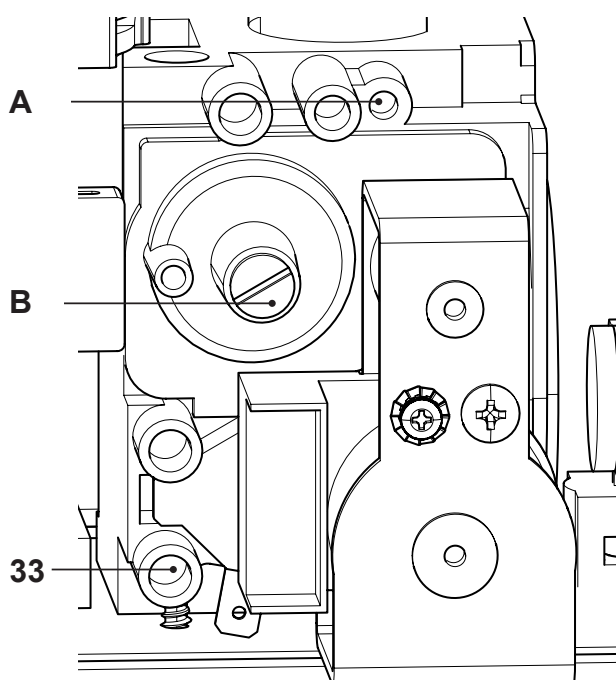

Fig. 7.6
- When the boiler is switched off (out of order), check the supply pressure by using the 33 point in Fig. 7.6 and compare the value read with that reported on the Gas supply pressure table in the "Technical Data" section (pag. 28 Activ A Plus 16S, pag. 30 Activ A Plus 25S).
- Close well the pressure point 33 in Fig. 7.6.